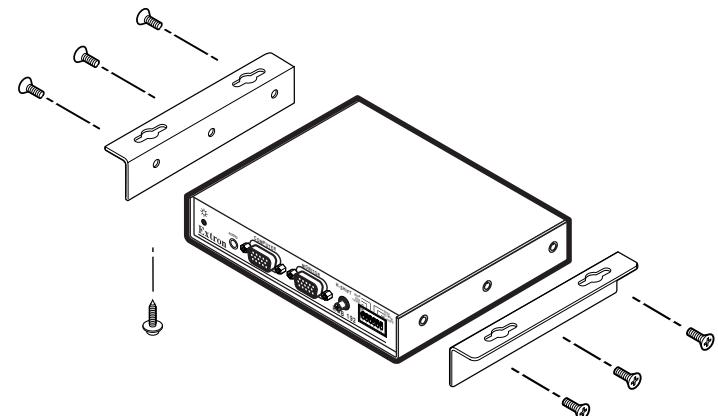

Figure 2-1 — Under-desk mounting
1. Secure the included under-desk mounting brackets (part #70-077-01) to the interface with the machine screws that are already installed in the side of the interface (figure 2-1).